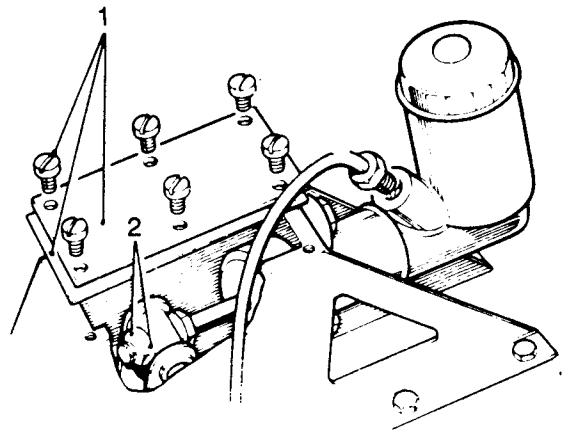

Fig H3.12
(6) Refer to Fig H3.12. Remove the top cover and gasket (1) from the clutch pedal bracket.
(7) Remove the nut (2) from the end of the master cylinder push rod and push rod into the master cylinder to clear the pedal trunnion.